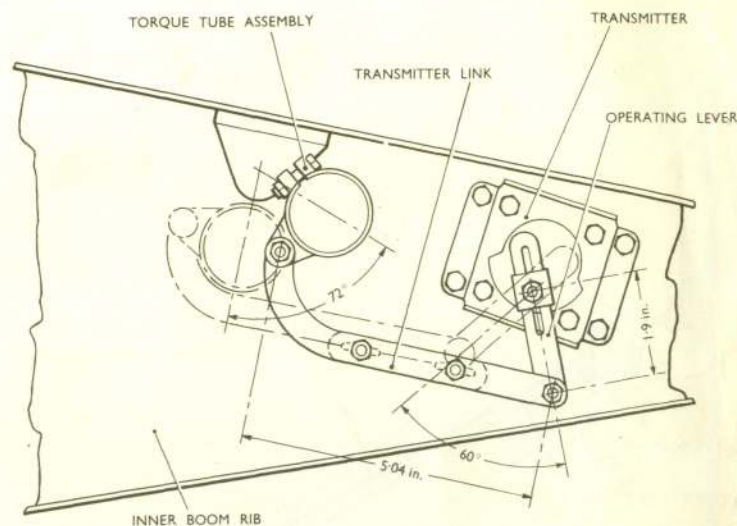

Fig. 9 Transmitter for flap position indicator
(1) With the flaps up, adjust the length of the transmitter link (Fig. 9) so that the position indicator reads zero.
(2) Fully lower the flaps and check that the indicator reads 80 deg. Should the angular reading fall short of this figure, decrease the length of the operating lever (Fig. 9); should it read more than 80 deg. increase the length of this lever.